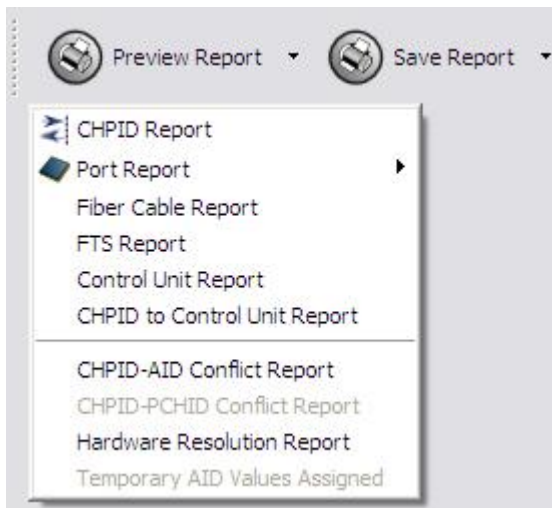

Figure 130. Choices under Preview Report
1. Click **Preview Report**. The tool displays a list of types of reports. Figure 130 on page 101 shows this list.